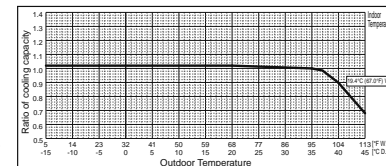

Figure 2 Outdoor unit temperature correction
(5) Outdoor Unit Correction Calculation
- Outdoor Design Dry Bulb Temperature Correction (98.6°F) **0.98 (Refer to Figure 2)**